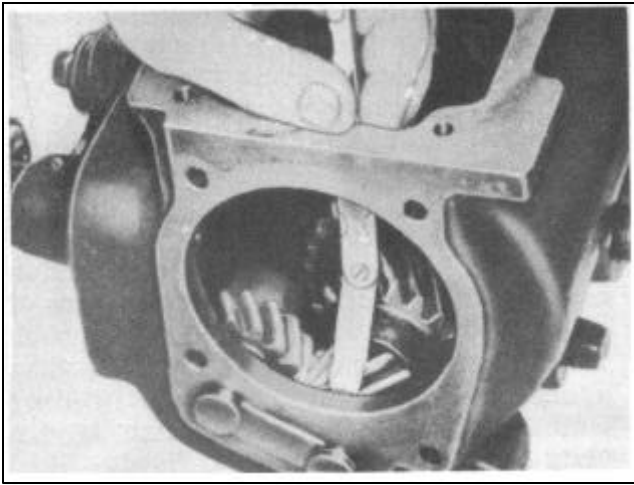

FIGURE 29
8. To install countershaft gear cluster assembly, place needle roller spacer tube over dummy shaft and insert in cluster. Apply viscous grease between shaft and inside of gear at each end and place needle roller washers in position against each end of spacer tube. Next, insert needle rollers (22) between inside of gear and dummy shaft, followed by a retaining washer at each end.
11. With a feeler gauge inserted between the rear thrust washers, check countershaft cluster end play, Figure 29. End play should range between .006" and .016"; if more than this, the thrust washers should be replaced.